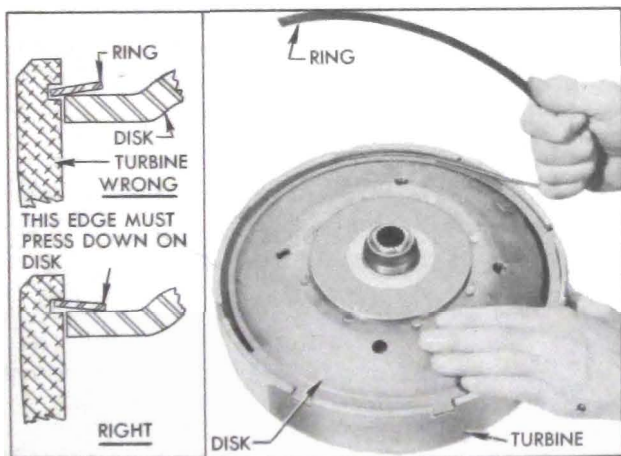

Figure 5-52—Installing Disk Retaining Ring
10. Note that the turbine disk retaining ring is "dished". Place the ring in position with the "dish" upward so that the inner edge will bear firmly against the disk when the ring is engaged in the groove in first turbine. See figure 5-52.
11. Start one end of ring into groove in turbine, then twist the ring upward as shown in figure 5-52 to lay the ring flat on the disk so that it can be progressively entered into the groove all the way around.